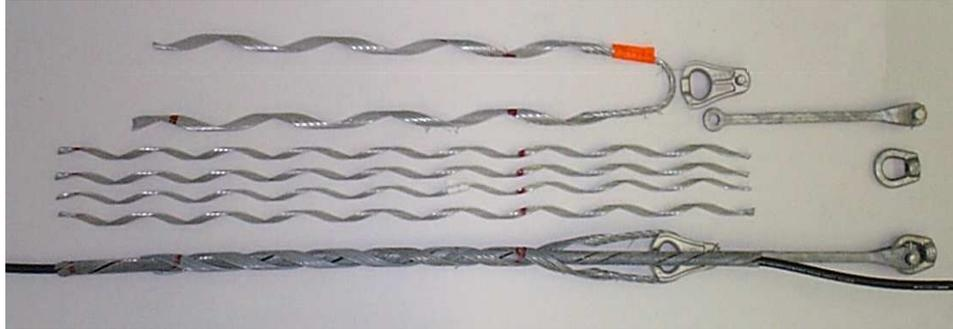

Figure 1 - Dead End Assemblies - used at start & end points, splice locations, and slack storage locations.
4.2 Dead End Assembly - each assembly comes complete with the dead end grip and the structural reinforcing rods (see Figure 1). The thimble clevis is included with dead end assemblies purchased from Tyco Inc. (Dulmison), Preformed Line Products, or through OFS (see Figure 1).
- b) Figure 1 identifies the associated hardware to be used with the dead end assemblies. Through bolts, washers and nuts are usually standard pole line hardware items that may be purchased through any local hardware distributor. Figure 1 identifies the use of an extension link with the dead end assemblies. The use of this extension link is recommended to maintain a uniform bend radius at dead end locations.